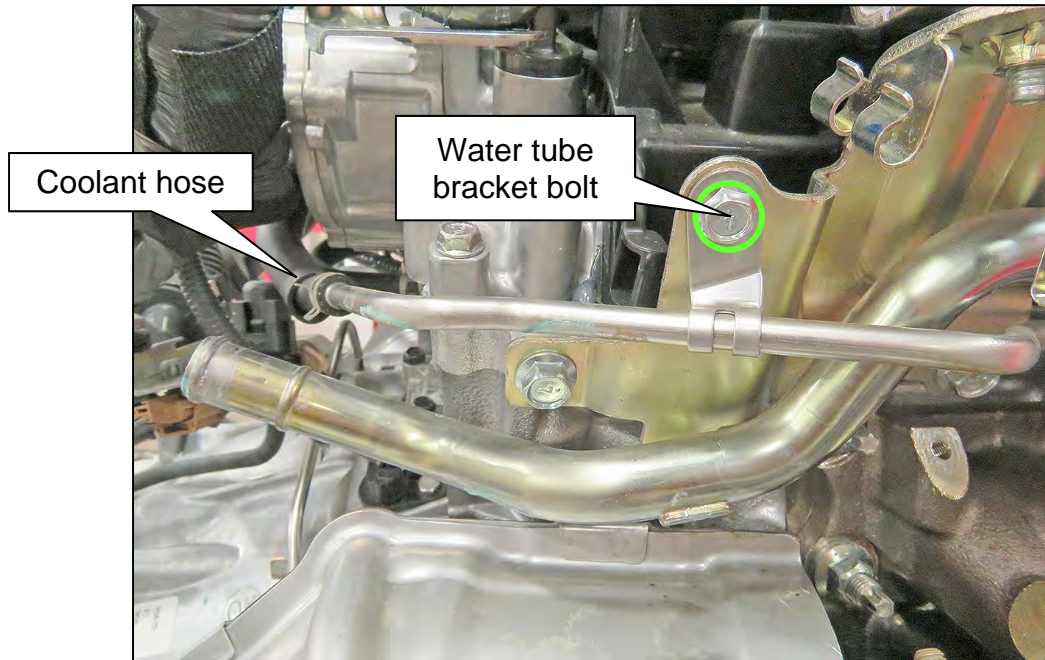

Figure 62
95. Reinstall the water tube bracket bolt (Figure 62) and torque to specification.
96. Reinstall the coolant hose and its spring clamp (Figure 62).